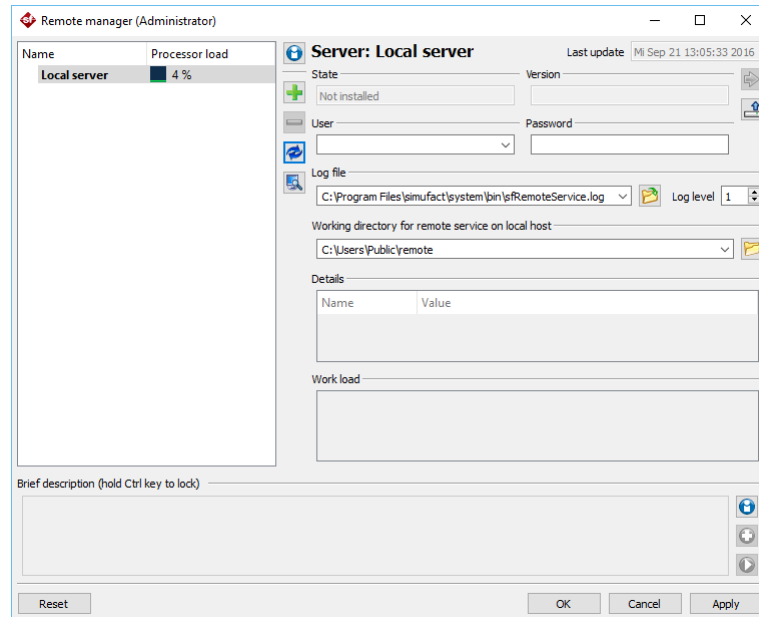

Figure 2.2. Local server not installed
8. Start the remote service by clicking the  button. If the service has not been installed (Figure 2.2), you have to click the installation button .